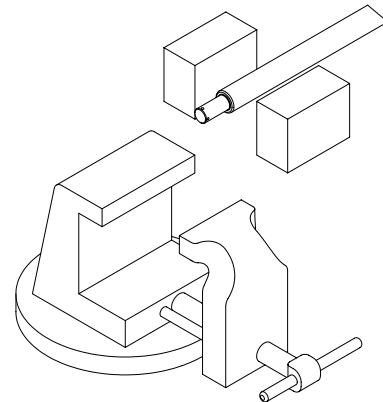

Figure 5-9, Cylinder Shaft
5. Clamp the rod assembly in a soft jawed vise on the wrench flats, not on the rod surface. If the rod does not have wrench flats use two pieces of wood on both sides of the rod to prevent scarring. (Figure 5-9)